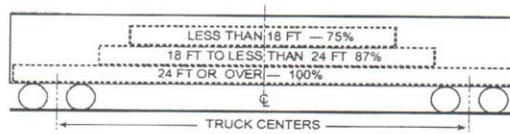

Fig. 3.4 Gondola load distribution
3.4.4.5 Fig. 3.4 applies to all gondola cars.